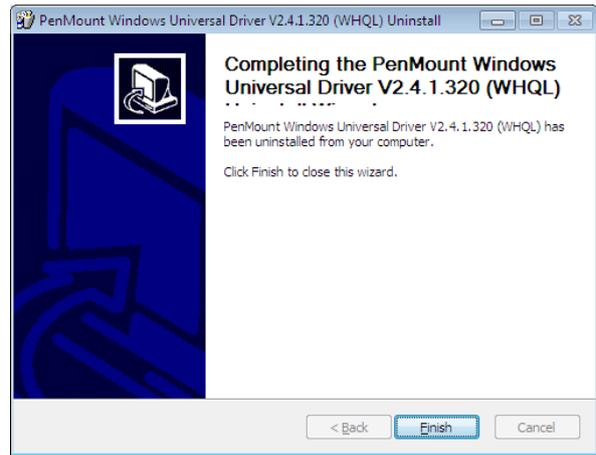

Figure. 109
Step 10: A dialog window will appear, indicating the driver has been uninstalled. Click “Finish” to exit (Figure. 109).